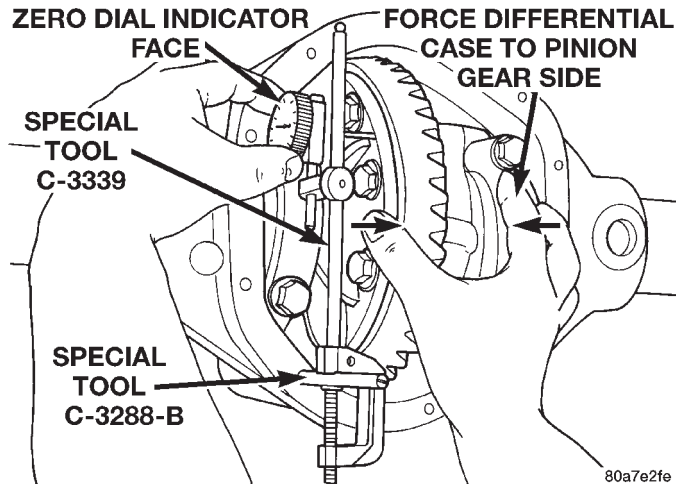

Fig. 57 Hold Differential Case and Zero Dial Indicator
(10) Push and hold differential case to pinion gear side of axle housing (Fig. 57).
(11) Zero dial indicator face to pointer (Fig. 57).